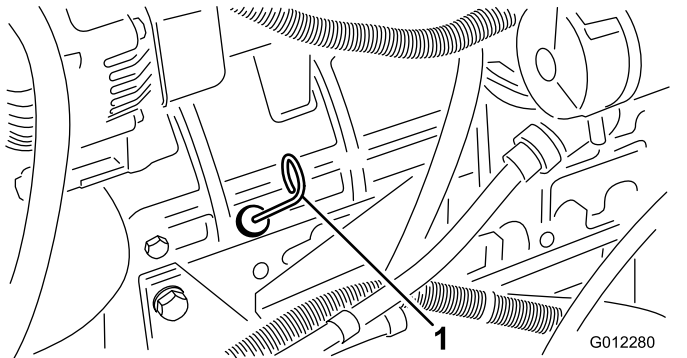

Figure 36
3. Remove the dipstick, wipe it clean, and install it (Figure 36).